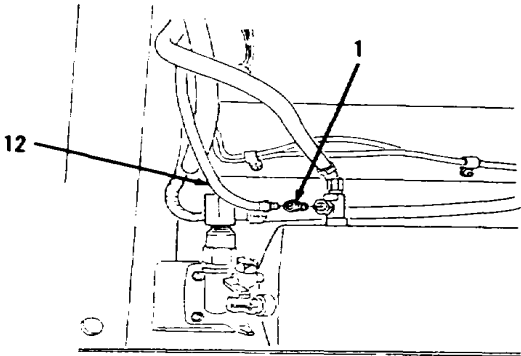
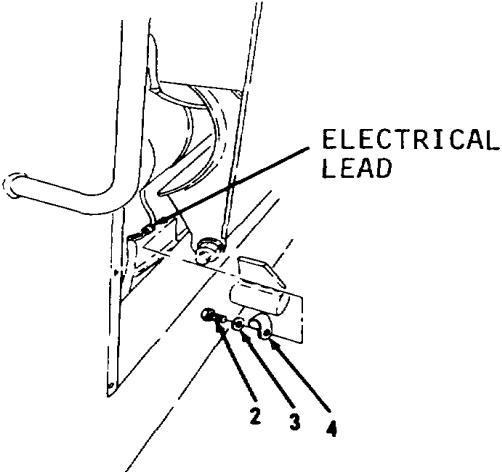
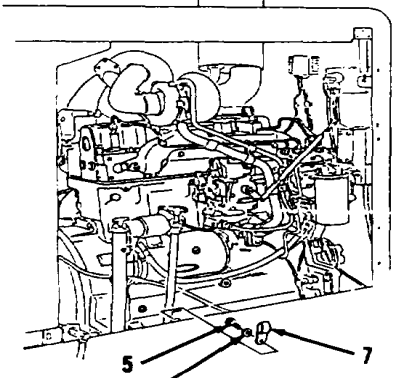

Figure 11-1.
Figure 11-2.
Figure 11-3.
1. Disconnect hose assembly (12, Figure 11-1) from air tank under rear, right side of vehicle.
2. Remove connector (1) from air tank fitting.
3. Extract electrical lead from bracket on right, rear frame, near alternator and move lead out of way to gain access to bolt (2, Figure 11-2).
4. Remove bolt (2), washer (3) and clip (4).
5. Remove bolt (5), washer (6) and clip (7, Figure 11-3) from right side of engine compartment.